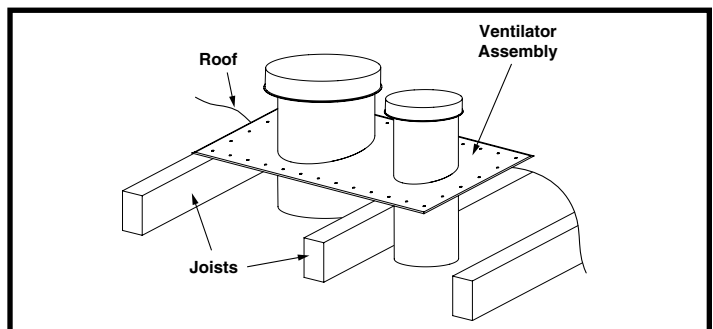

Figure 4. Ventilator Roof Alignment
3. Cut approximately a 7-inch diameter hole in ceiling directly above the duct fitting. Avoid ceiling joists and other obstructions in the ceiling cavity and keep debris from falling into furnace. See Figure 4.
NOTE 1: The roof cap assembly should be located as closely as possible to the center of the home, allowing connection of the fresh air intake to the furnace using the 11-foot length of flexible duct provided. See Figure 4.